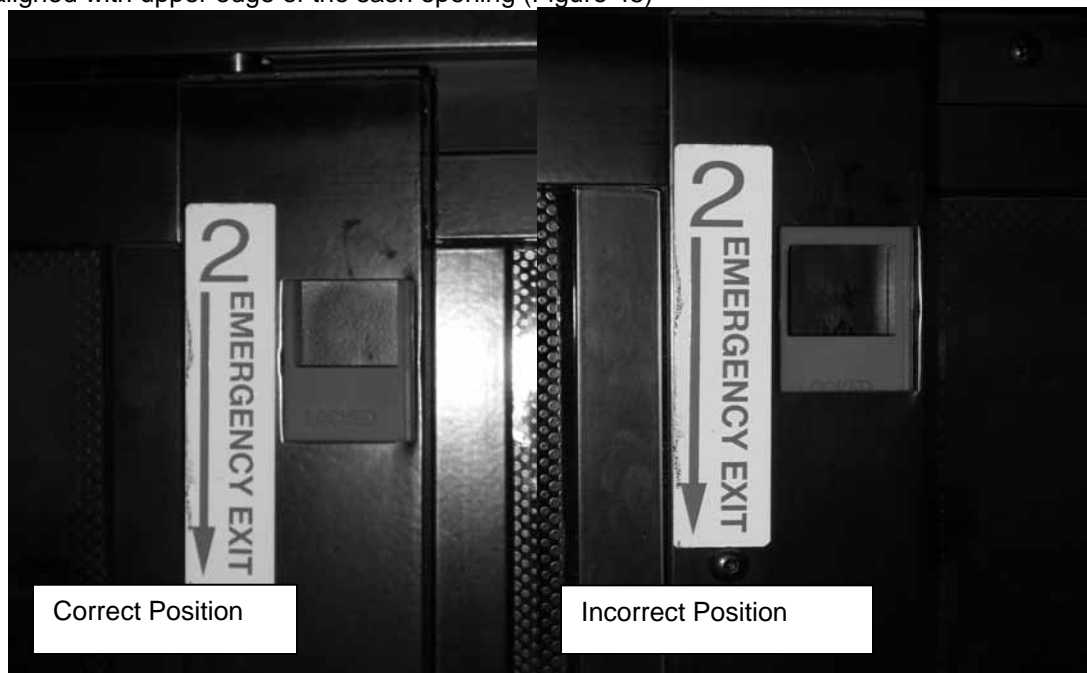

FIGURE 45: RELEASE LATCH PROPER POSITION
6. Confirm that both latches are in the closed (latched) position. The upper edge of the latch opening must be aligned with upper edge of the sash opening (Figure 45)
Unless otherwise noted, body panels and doors should be aligned and centered with surrounding panels. In general, a gap of $\frac{1}{4}$ inch (6 mm) is desirable between panels. Refer to figure 45 for specified gaps.